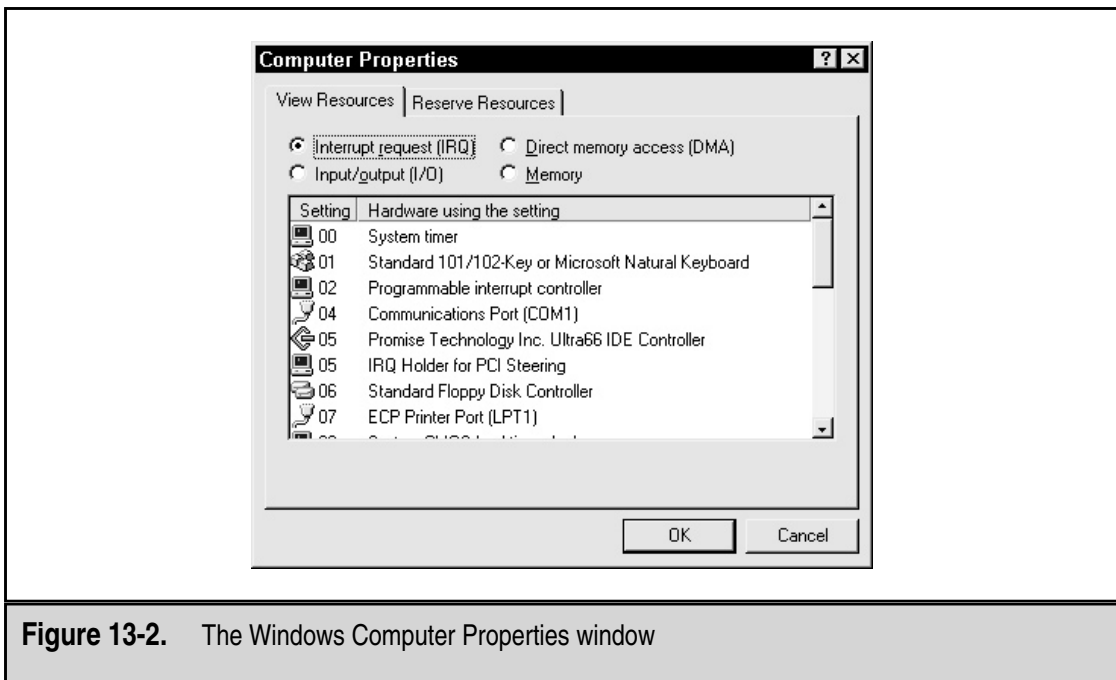

Figure 13-2. The Windows Computer Properties window
2. Select the Device Manager tab. Highlight the Computer entry and click the Properties button located at the bottom of the device window. This displays the Computer Properties window, shown in Figure 13-2.